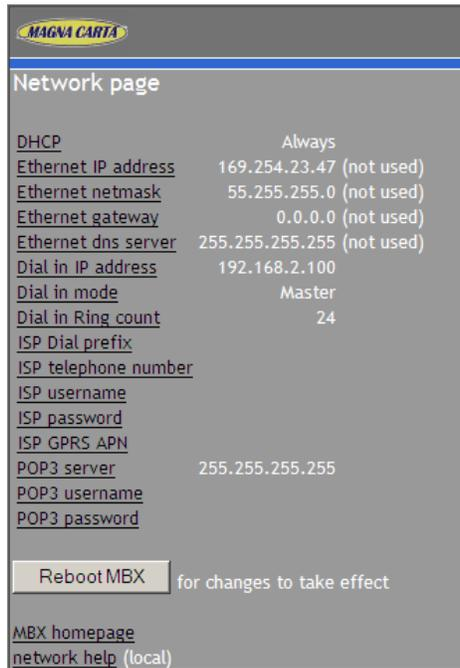

Figure 4-11 Network page of a Magnabox
- 1) config network for the parameters in Figure 4-11